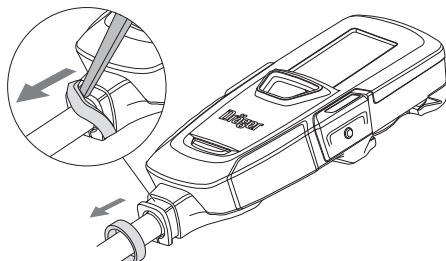

Fig. 48 Removing the retaining band
1. Remove the retaining band and then slide it down the hose (Fig. 48).